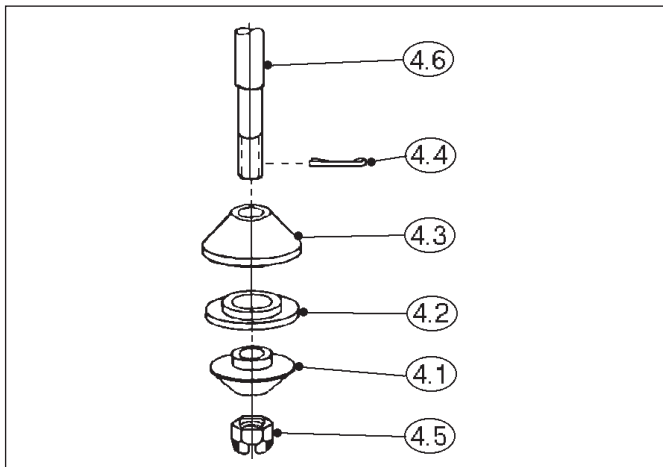

Figure 3
11. Using a pick-end tool, pull out each packing ring (10) from within the bonnet's (2) packing box; discard each packing ring (10). NOTE: Six packing rings per packing set (10) for sizes 1/2" – 1" (DN15-25); five packing rings for sizes 1-1/2" and 2" (DN40 and 50).
12. Rotate packing stud nuts (21) over end of packing studs (20) to prevent impact damage.
13. Remove bonnet (2) with guide bushing (12) still in packing box from vise. Turn bonnet (2) upside down and allow guide bushing (12) to slide out. NOTE: Guide bushing (12) is not “pressed” into its location. If stuck in place, use a tool on the guide bushing's (12) bottom end to push the guide bushing (12) out.
15. Using a micrometer, measure the stem (4, 4.6) OD and the guide bushing (12) ID in the portions exposed to wear. Replace all parts showing wear or axial scratches/grooves on the stem (4, 4.6). It is recommended that the guide bushing (12) also be replaced if the stem (4, 4.6) shows scratches/grooves.
- a. Examine plug head (4) at location where plug (4) seats to seat ring (3). Closely examine these parts (3, 4) for any wire-drawing. Replace both plug-stem (4) and seat ring (3) whenever one or the other shows any signs of wear.
- b. Using a suitable seat lapping compound, hand-lap the plug (4) to the seat (3).
- c. If significant plug (4) or seat ring (3) wear is present, replace trim.
17. Composition (Soft) Seated Trim (See Fig. 3):
- d. Slide both adapters (4.1, 4.3) with soft seat (4.2) off nut-end of stem (4.6). Discard soft seat (4.2). Examine adapters (4.1, 4.3) and seat ring (3) for wear; replace all significantly worn parts. Clean adapters (4.1, 4.3) to be reused.